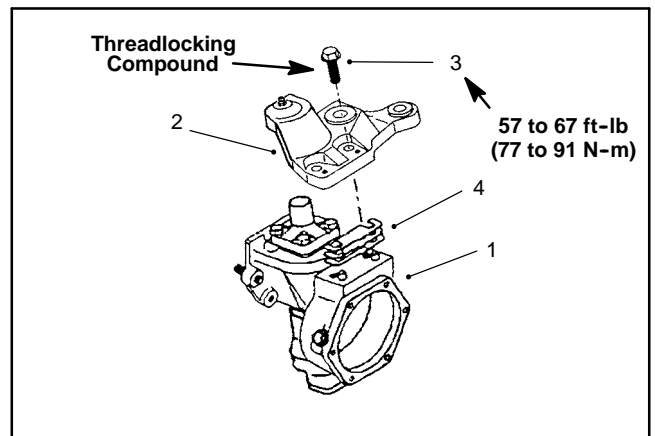

Figure 17
4. Remove the axle case support mounting screws, the axle case support and the support shims (Fig. 17).